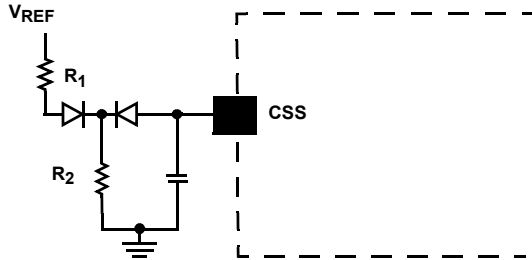

FIGURE 8. REFERENCE-BASED CLAMP CIRCUIT
- Per Equation 3, the clamping voltage is a function of the charge current  $I_{SS}$ . For a more predictable clamping voltage, the CSS pin can be connected to a reference-based clamp circuit as shown in Figure 8. To make the  $V_{clamp}$  less dependent on the soft-start current ( $I_{SS}$ ), the currents flowing through  $R_1$  and  $R_2$  should be scaled much greater than  $I_{SS}$ . The relationship of this circuit can be found in Equation 4.